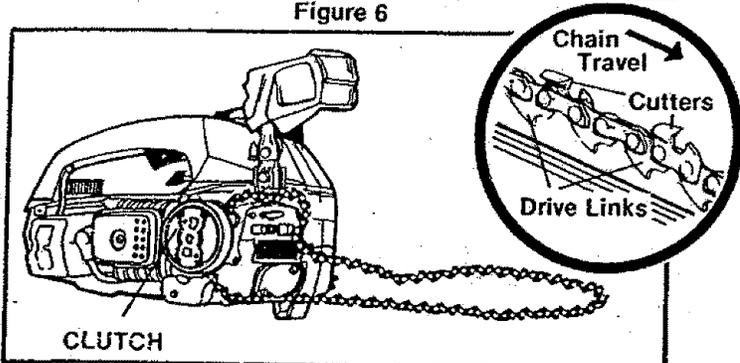

Figure 7
- b. Hold chain with cutters facing as shown in Figure 7.
- c. Place chain over and behind the clutch drum, onto the sprocket. Figure 7.